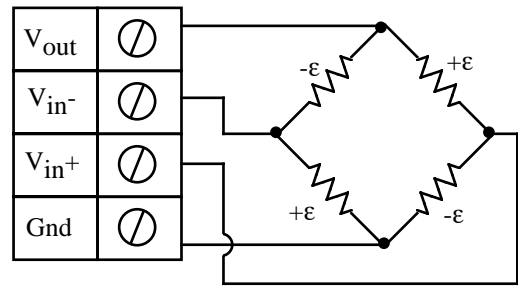

Fig 3.10 - Strain Measurement - Full Bridge Circuit (Bending)
Measuring bending strain using a full bridge configuration involves wiring four strain gages as shown in figure 3.10, applying a voltage across the bridge, and measuring the voltage across the two intermediate bridge nodes via a pair of instruNet Vin+ and Vin- input terminals. The excitation voltage for the bridge is supplied by either the instruNet Vout terminal or by an external voltage source. instruNet calculates the value of the strain, returning "strain" engineering units, using the equations:
3. Wire your voltage source per figure 3.10, and refer to the steps at the beginning of this chapter for more information on how to set up your sensor.^{5,10}